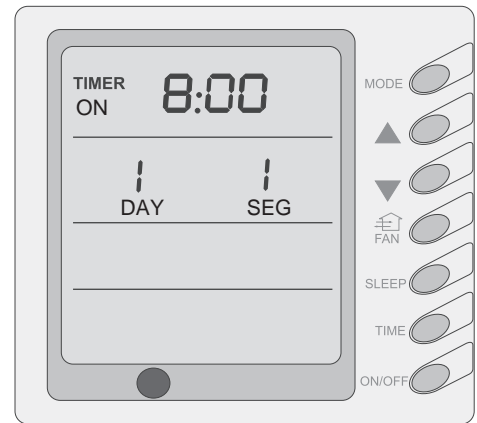

fig 18
- ❖ If enter into timer setting, by pressing “Mode” button to select the setting item: Day (Monday to Sunday), Segment (1-4), Timer (timer on or timer off), the Minutes and Hours of the time; By pressing “▲”、“▼” buttons to adjust the setting, then press the Timer button to confirm, and press the Timer button once more to cancel the setting; After the setting confirmed, the character on displayer will not blink, it can not be setup; When cancel the confirmation, there are figure blink, it can be set up, finally press the “ON/OFF” button complete the setting and quit, the timer data will be save. (Fig.18, 19)